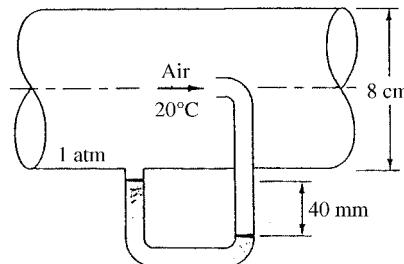

Fig. P6.136
**6.136** For the pitot-static pressure arrangement of Fig. P6.136, the manometer fluid is (colored) water at  $20^\circ\text{C}$ . Estimate (a) the centerline velocity, (b) the pipe volume flow, and (c) the (smooth) wall shear stress.